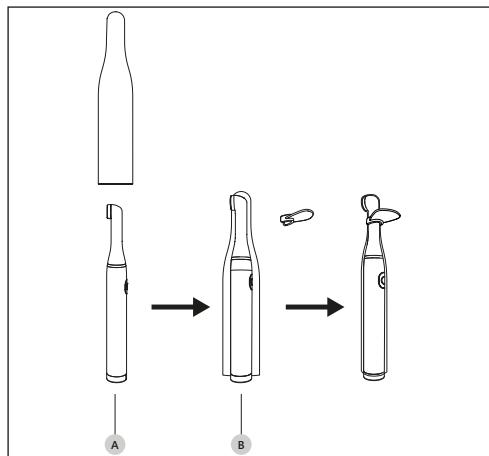

Figure 8 – Connecting the Accessories
2. Insert the single use protective sheath onto the handpiece (Figure 8 at page 15 - Ref. A);
3. Fix the optical protection onto the handpiece (Figure 8 at page 15 - Ref. B).